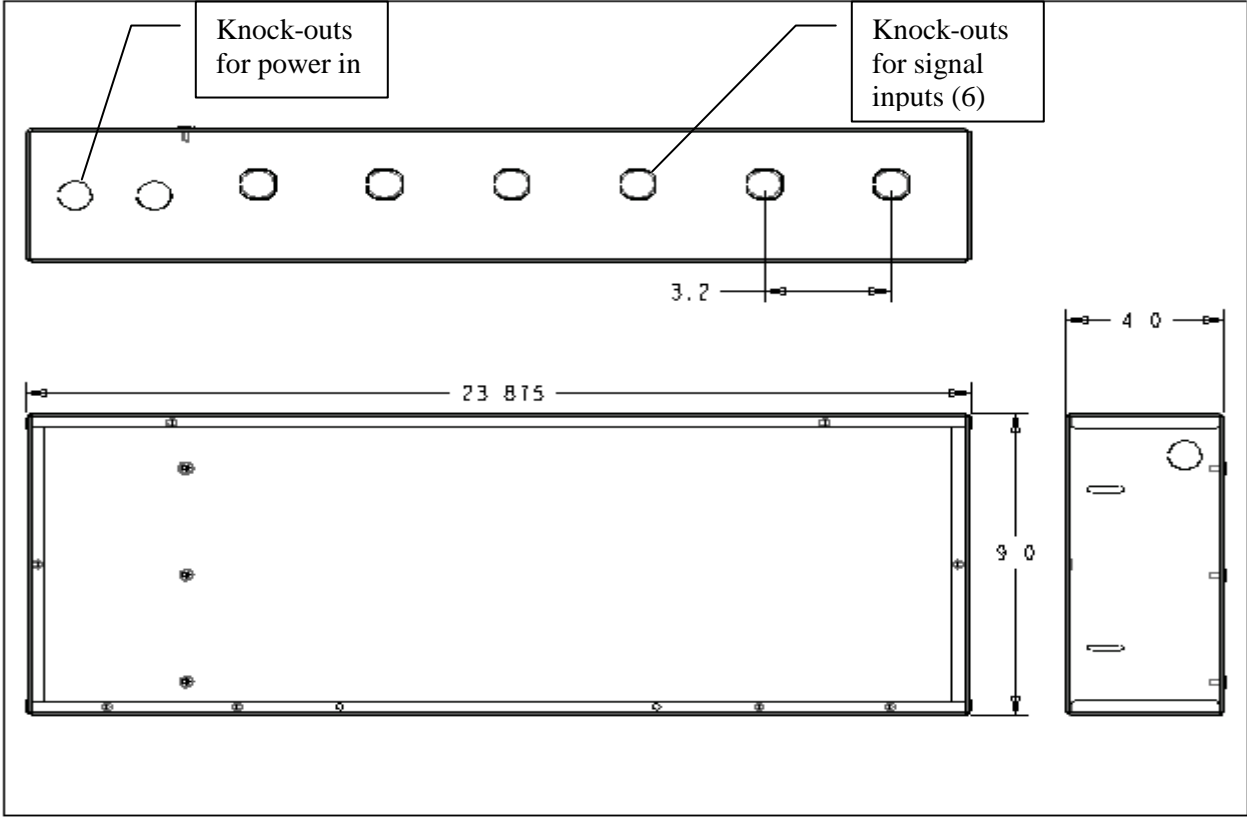

Figure 5, 6-Module Back Box
3.1.1.2 The second back box (Figure 5) is 23.875 inches long and will accommodate one Control Module and six other modules.